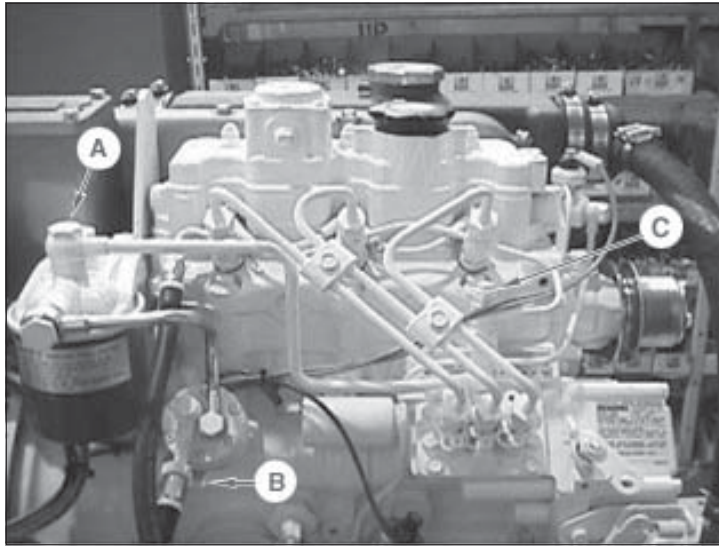

Figure 11: M773LK Fuel System.
2. Loosen bleed bolt "A" (Figure 11) on top of the filter. Pump hand primer "B" on fuel lift pump until pure fuel (no bubbles) escapes from bleed bolt "A". Tighten bleed screw "A".